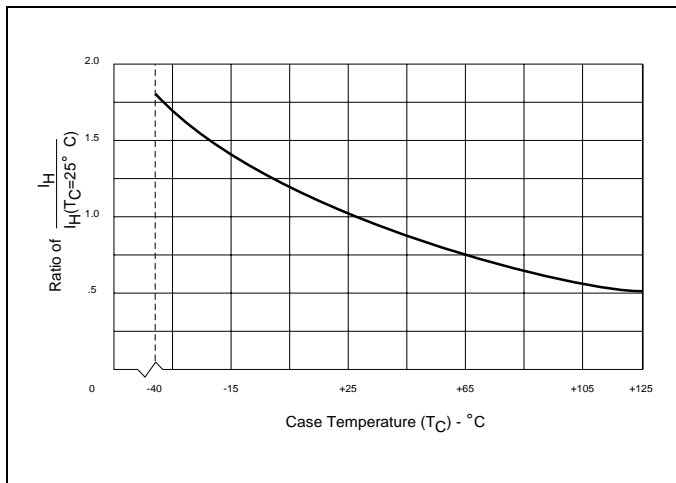

Figure 9.2 Normalized DC Holding Current vs Case/Lead Temperature
- See Figure 9.2 for  $I_H$  vs case temperature.